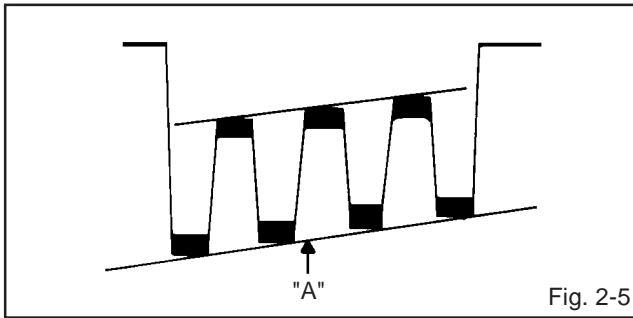

Fig. 2-5
6. Press the VOL. UP/DOWN button on the remote control until the section "A" becomes a straight line. (**Refer to Fig. 2-5**)
6. Press the VOL. UP/DOWN button on the remote control until the section "A" becomes a straight line. (Refer to **Fig. 2-5**)